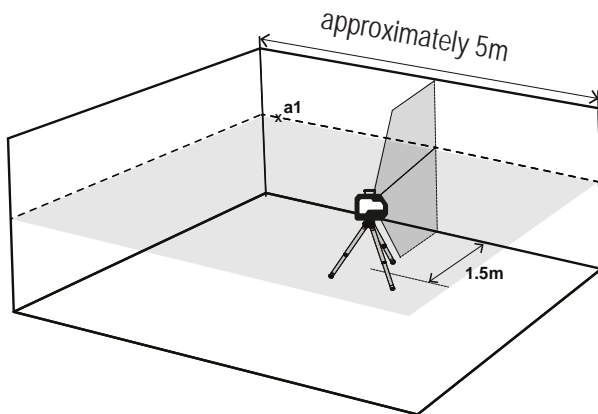

Figure 5
3. Mark point **a1** on the wall, in the middle of the horizontal line at the left side of the wall (see figure 5).